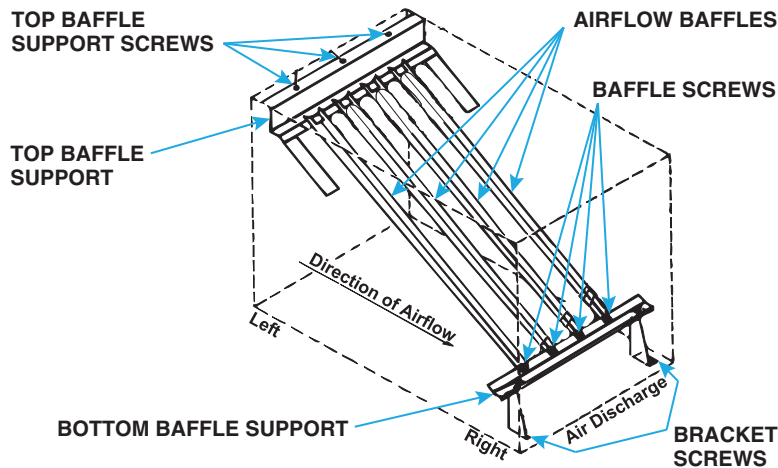

Figure 24. Airflow Baffles
- b. For standard (not high CFM) furnaces, remove baffle screws (see Figure 24) and lift each airflow baffle slightly and slide forward. Remove all baffles from heat exchanger.